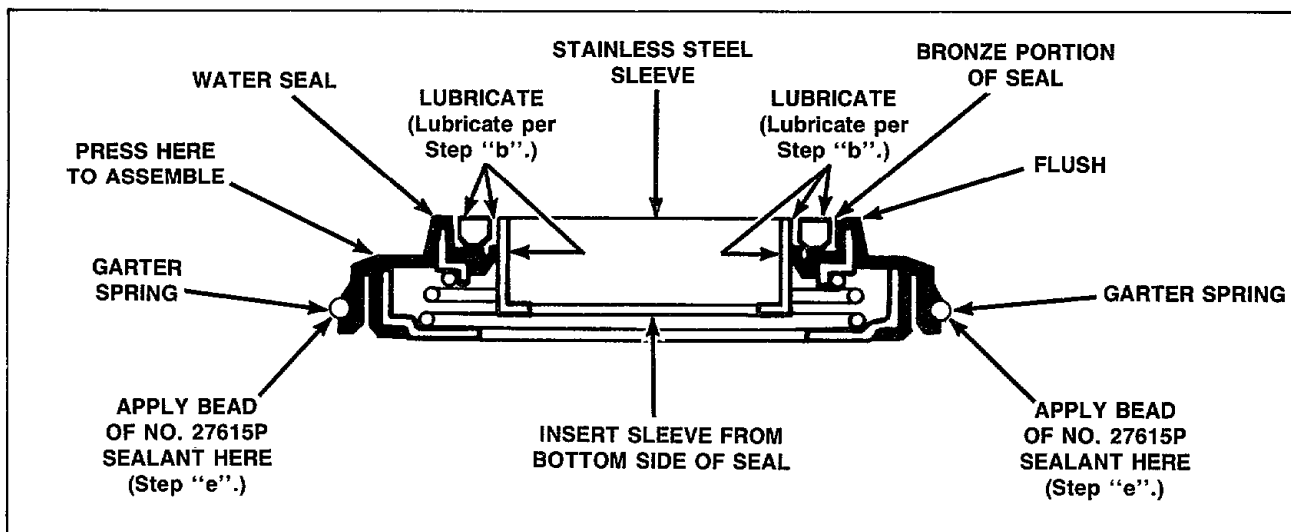

Figure 40
- b. Apply a light film of non-staining petroleum jelly (such as Vaseline®) to the bronze portion of water seal and to the outer surface of the stainless steel sleeve, *Figure 40*.
- c. Insert the stainless steel sleeve into the water seal from the bottom side of the seal, *Figure 40*, until the sleeve is flush with the bronze portion of the seal.
- e. Carefully apply a small amount of No. 27615P Sealant (supplied with kit) around the outer edge of seal and tub. (The area located just below the garter spring, *Figure 40*.)